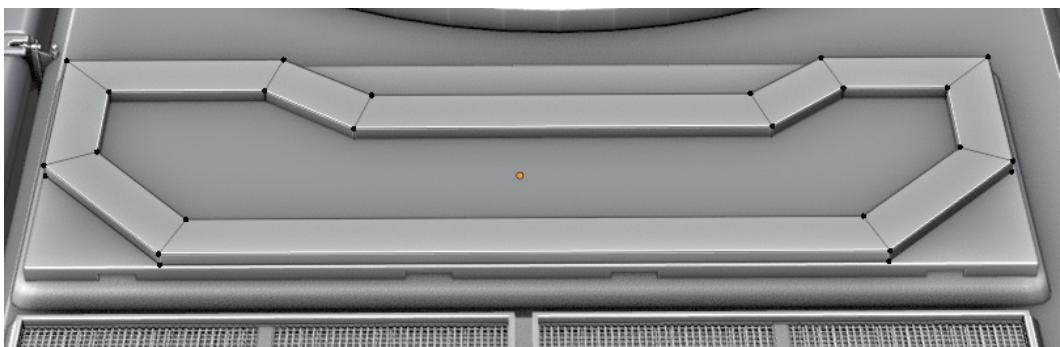

Figure 8.53 – An outline
8. Create an outline, as shown in *Figure 8.53*, on top of the panel. You can do this by creating the shape using a plane, insetting faces, and deleting the inner faces.